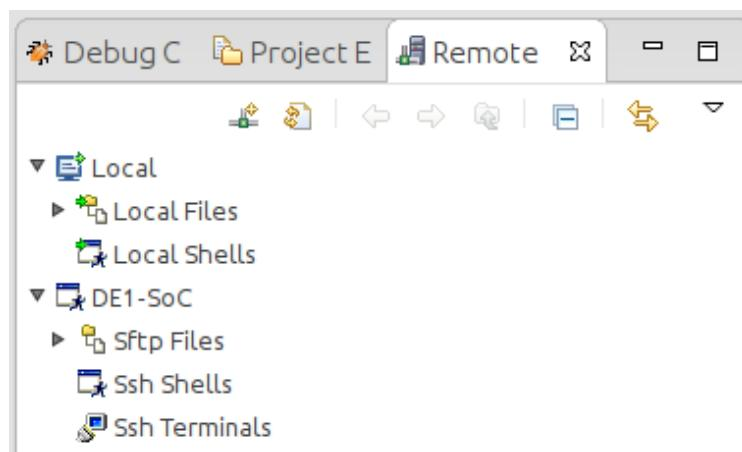

Figure 13-8. New SSH Connection In "Remote Systems" View
18. You should be able to see the remote system in ARM DS-5's "Remote Systems" view, as shown in Figure 13-8.